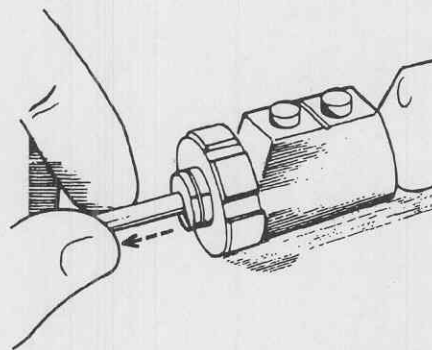

Figure 2-6. Cutter/bur insertion check.
c. Ensure that the location key on the cutter/bur shaft is securely engaged into the key receptacle on the handpiece. Gently pull on the cutter/bur to ensure that it is securely affixed as illustrated in figure 2-6.